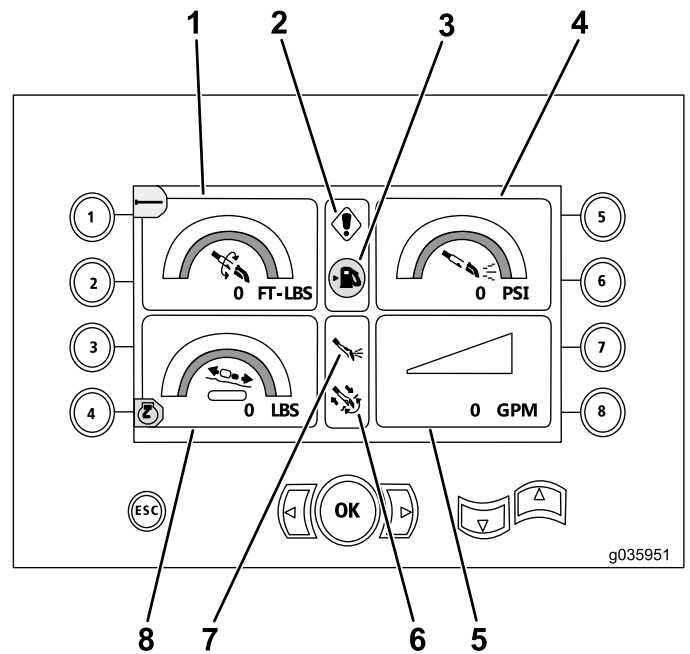

Figure 4
- Drilling and/or engine-error code warning (Figure 4)
- Low-fuel warning (Figure 4)
- Drilling fluid indicator (Figure 4)
- Auto drilling is in the ON position (Figure 4)
This screen provides measurements on rotary torque in ft-lbs, drilling-fluid pressure in psi, carriage force in lbs, and drilling-fluid flow rate in gpm (Figure 4).